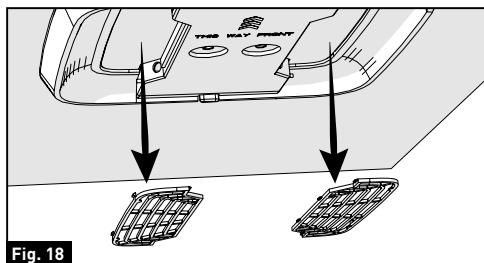

Fig. 18
2. Remove the filters by pushing the tabs to release. (Fig. 18)